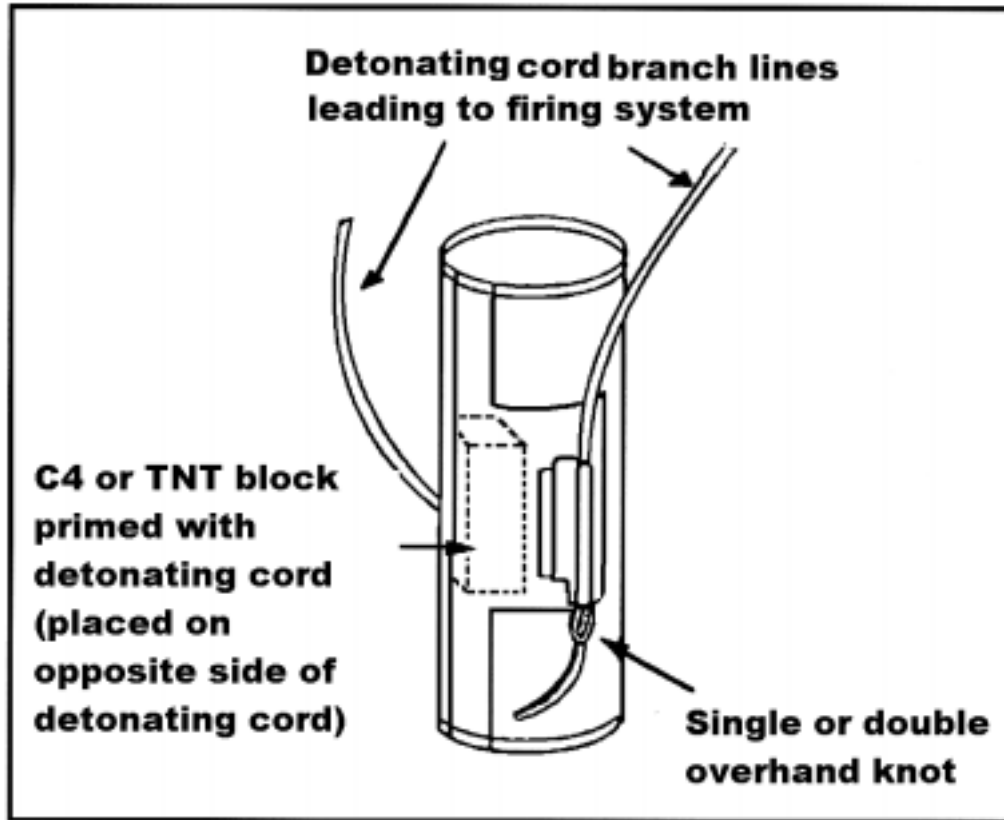

Figure 051-193-1311-8
- (1) Pass the end of the detonating cord through the tunnel on the side of the cratering charge.
- (2) Tie an overhand knot with a 6-inch tail at the lower end of the length of the detonating cord.
- (3) Take a preprimed 1-pound block of explosive (C4 or TNT) and tape the charge along the center of the cratering charge (Figure 051-193-1311-8).